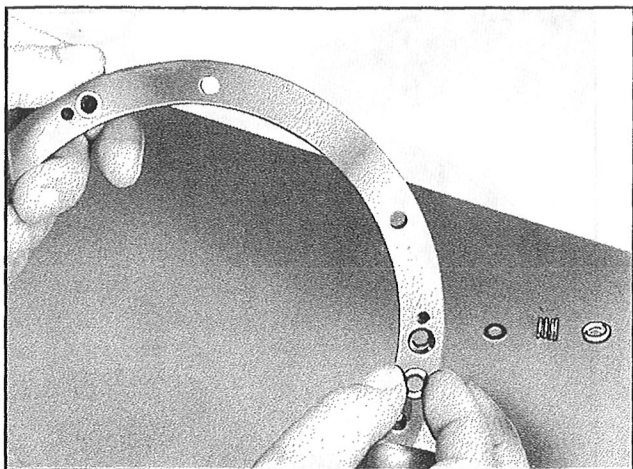

Figure 183—Installation of Seals in the Adapter Ring
*Step 2.*—Place a doughnut seal, flat washer, and spring in each of the control screw holes in the order named. See Figure 176-A. Take the cup washer and tap it into place over the spring with the lip of the washer facing inwardly. Make certain that the washer is installed evenly so that the edge of the washer is flush with, or below the level of the adapter ring. See Figure 183.